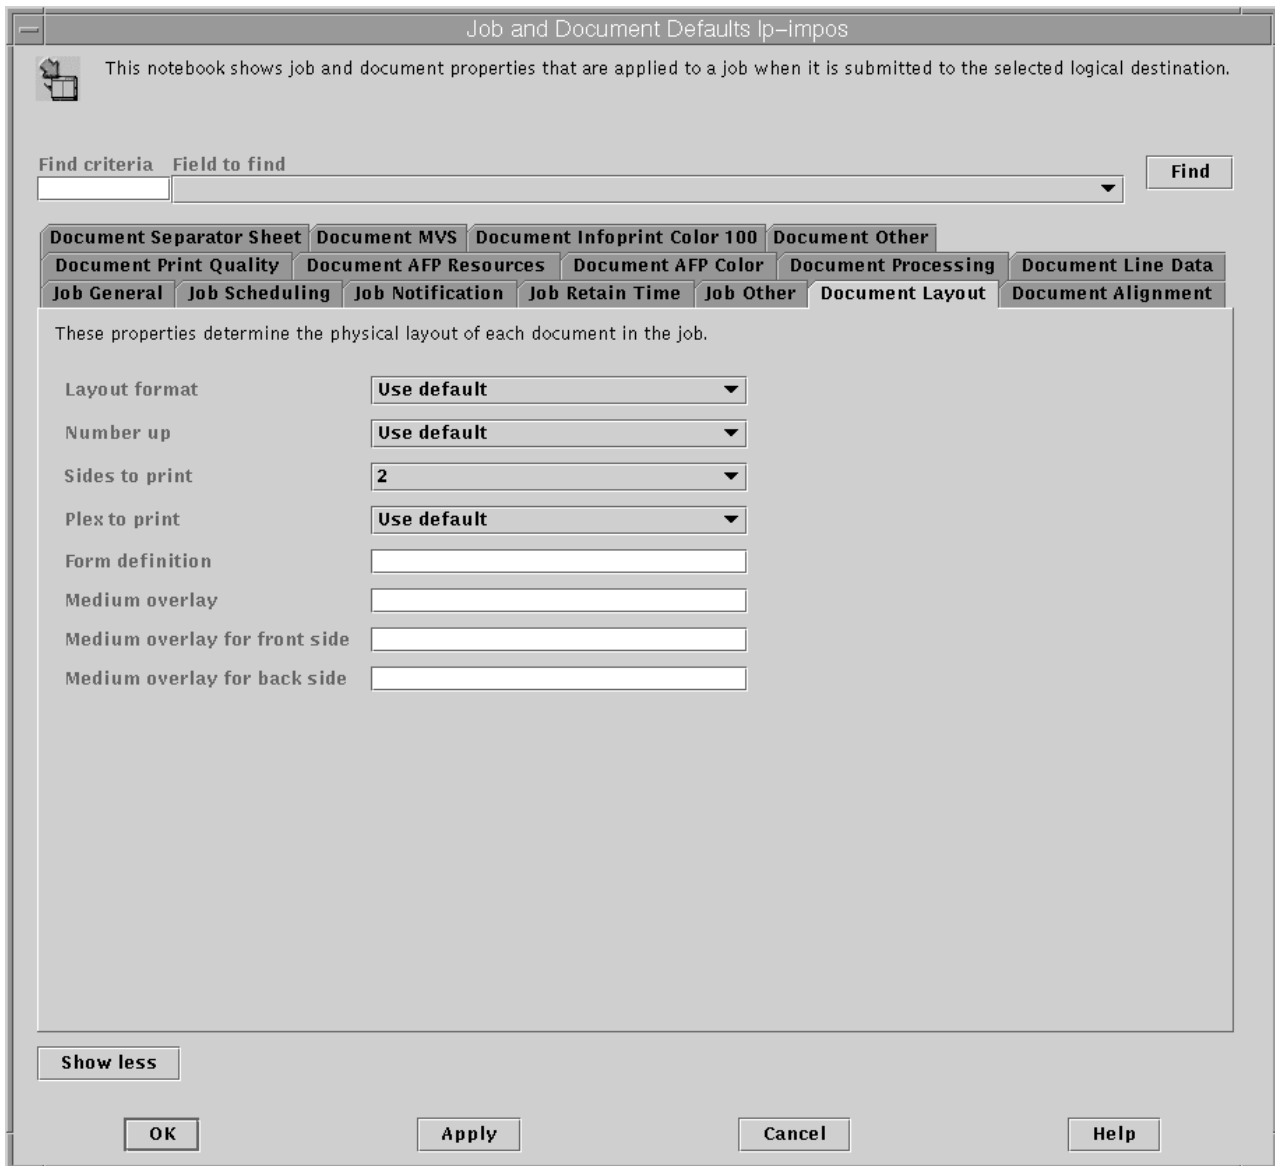

Figure 2. Document Layout Tab View.
- d. From the **Document Layout** tab view, you can specify duplex jobs by defining the Sides to print field (the **Sides** attribute) as 2 and allowing all other attributes to take the default, as shown in Figure 2 on page 8.